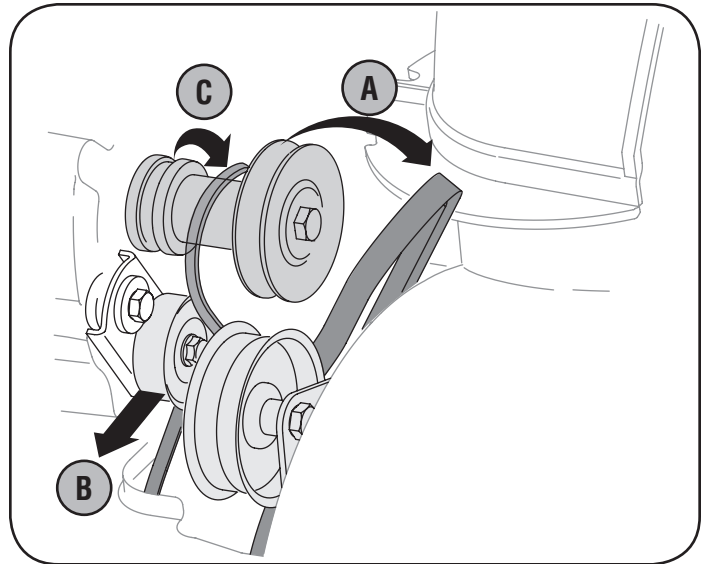

Figure 26
3. Remove the belt as follows. Refer to Figure 26.